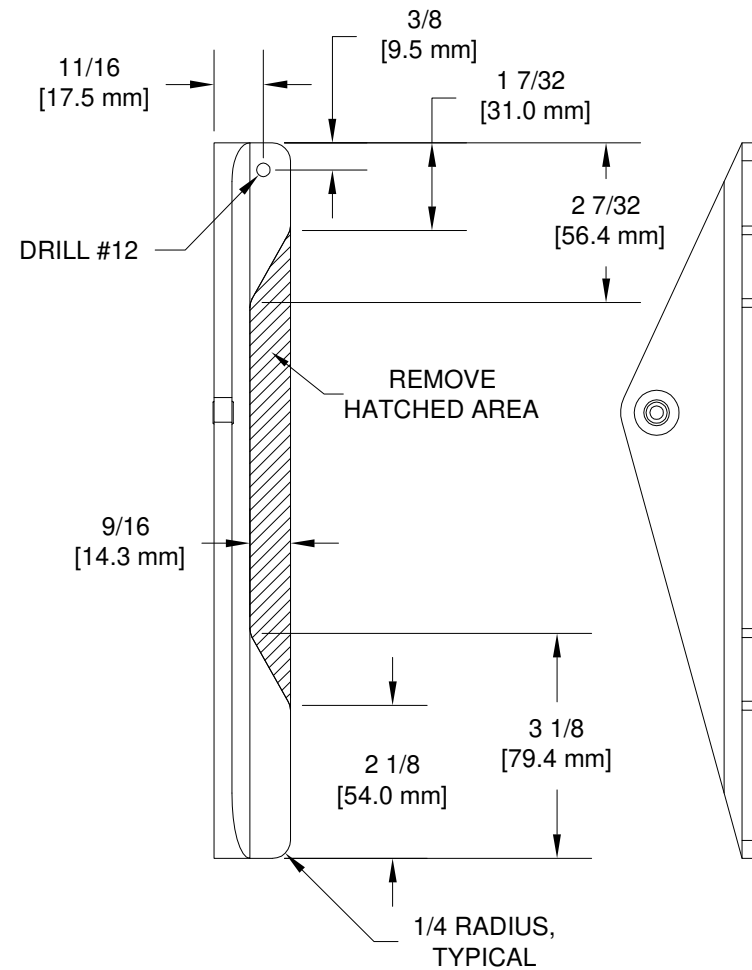

FIGURE 1: DRILL AND TRIM CONTROL COLUMN MOUNT
Step 7: Assemble two Inbd Fwd Seat Rail Supports as shown in Figure 1.
Step 1: Using a #12 bit, drill a hole in the **F-1033-L** Control Column Mount located as shown in Figure 1.
Radius the corners and remove material from the middle of both control column mounts as shown in Figure 1.